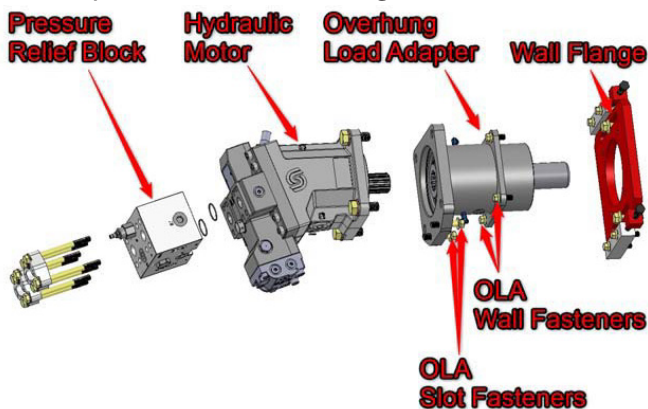

Figure 31
2. Remove all of the hydraulic hoses off the hydraulic motor and pressure relief block. The fasteners holding the holding on the pressure block also hold the block on the hydraulic motor. See Figure 31.
3. Remove all four (4) fasteners to separate the hydraulic motor from the overhung load adapter.